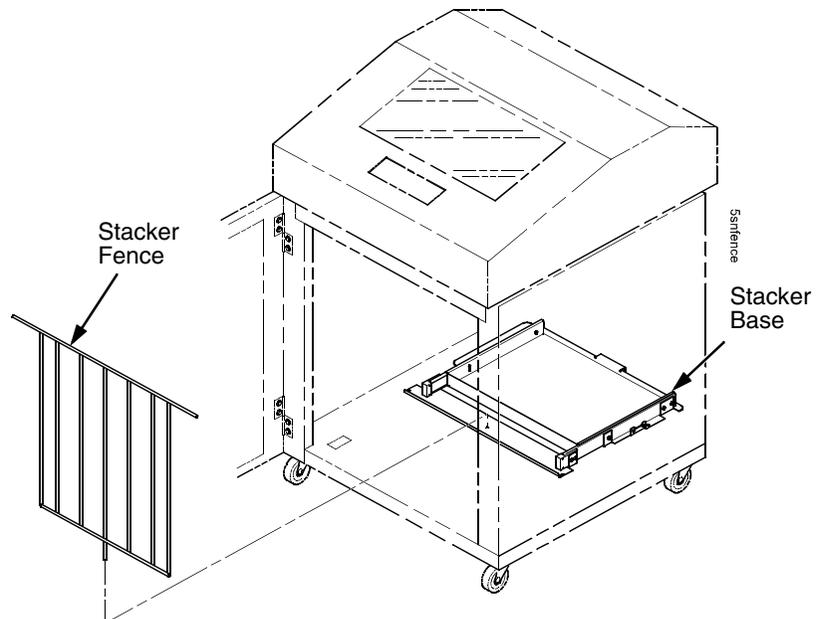

Figure 71. Removing the Paper Fence
5. Cut the tie wrap (if present) and remove the paper fence. (Figure 71.)